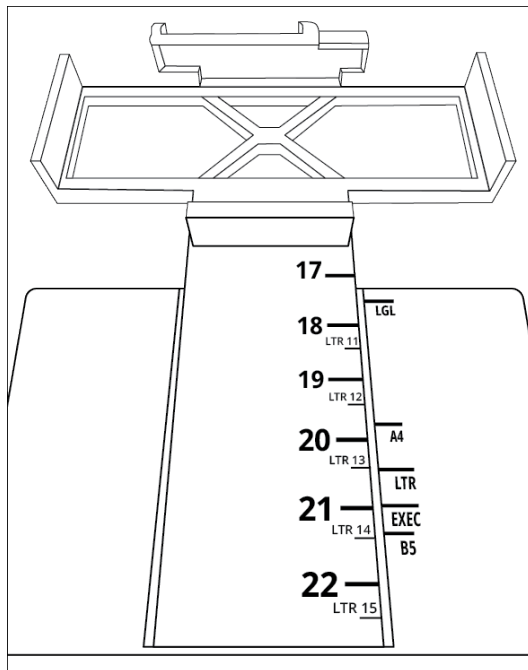

Figure 4-11. Lexmark MS521dn adjustable paper tray – aligned for 13 inch paper
3. Slowly pull out the adjustable portion of the tray until the white LTR line on the right of the tray is aligned with the engraved line for the desired paper length. Figure 4-11 shows an example of how to properly align the tray when using 13 inch paper.